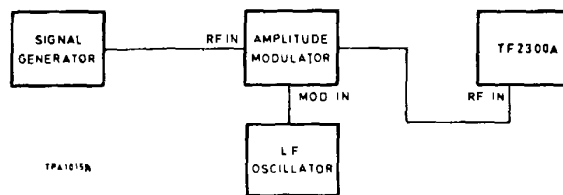

Fig. 4-7. A.M. rejection measurement
(1) Set up the equipment as shown in Fig. 4-7. Adjust the signal generator to give a c. w. output of 100 mV at any convenient frequency. Adjust the l. f. oscillator frequency to 1 kHz at a level which gives 80% modulation as measured on the TF 2300A.
(2) On the TF 2300A set the Function switch to TUNE and the OSCILLATOR TUNE control to give maximum meter reading. Then adjust the LEVEL control for a reading within the black arc.